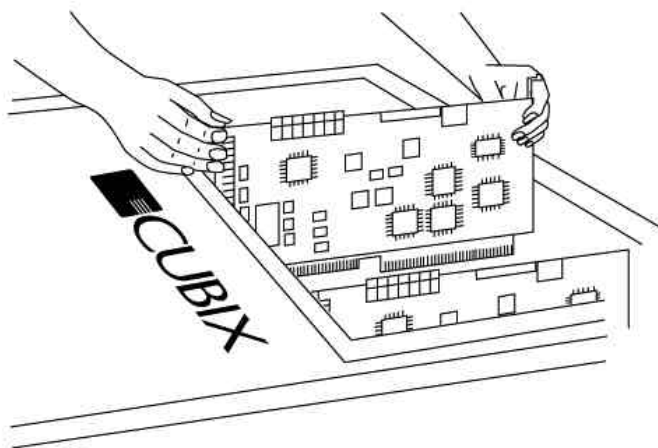

Figure 4 Inserting Server Board into Chasis Group
4. Insert the board into the group slot, ensuring the board interface tabs are aligned with the center of the slot (see Figure 4).